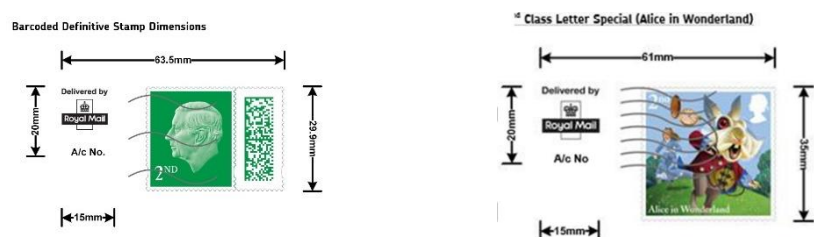
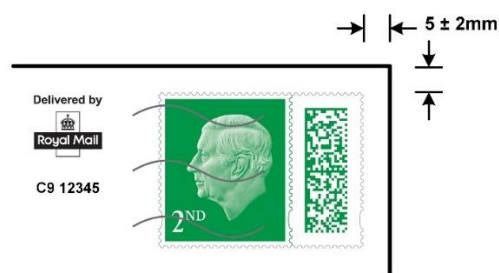

Figure 33: Access License Number positioning and dimension requirements for Digital Stamp Indicators
Figure 34: Digital Stamp Indicator layout and positioning
- You must ensure that the correct Access Licence Number (C9 number) relevant to the Access Contract you use for the Posting is added to the artwork in the position detailed in Figure 33 and Figure 34 below.
- Artwork must meet the exact dimensions of the Digital Stamp artwork (see Figure 33 below).